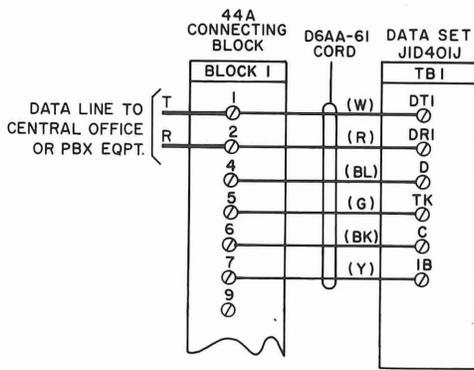

Fig. 6—Data Set J1D401J, 401J1, Connections (D6AA-61 Cord)
- (a) The arrangement for Data Sets J1D401J and 401J1 is shown in Fig. 6.